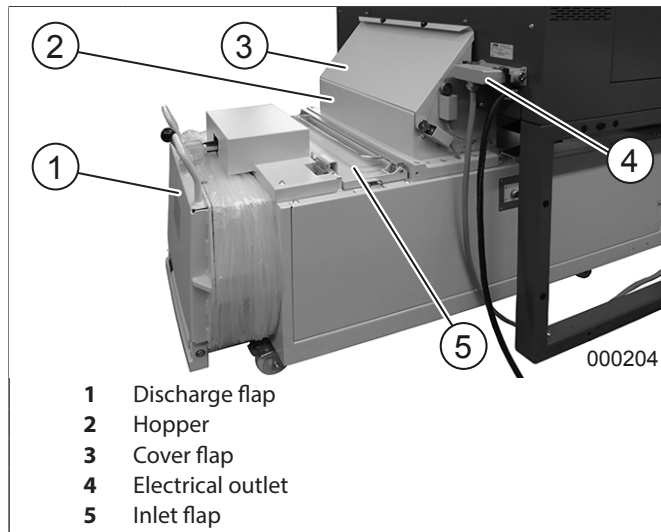
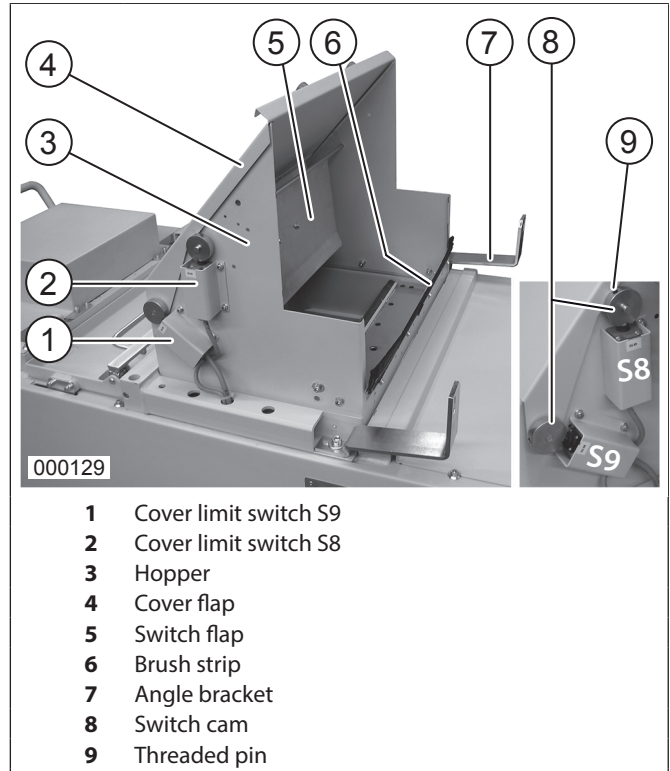

fig.1 Flaps and hopper
fig.2 Hopper
1. Release the transport lock (binder) on the outlet flap (fig. 1/1) and fold the flap down.
2. Take the hopper (fig. 1/2) out of the press compartment, as shown, place over the filler opening and fix to the press from inside with the aid of the 7 hexagon socket screws M6x12.
3. Swivel the brush strip (fig. 2/6) on the hopper up until the brush is pointing in the direction of the press compartment. Fix the brush strip to the hopper in this position with the two M6x16 hexagon socket screws and washers provided (use upper hole for fixing).
4. Remove both switch covers (fig. 2/1+2). Fix the limit switch S8 with 2 screws M4x40 and nuts M4 below the switch cam of the switch flap (fig. 2/8). Undo the threaded pin (fig. 2/9) (Allen key 2.5 mm), turn the cam into position and tighten the threaded pin again.
5. Fix the limit switch S9 with 2 screws M4x40 and nuts M4 under the switch cam of the cover flap (fig. 2/4). Undo the threaded pin (fig. 2/9) (Allen key 2.5mm), turn the cam into position and tighten the threaded pin again.
6. Position the two switch covers (fig. 2/1+2) over the limit switches and fix each to the hopper with two screws M5x16 and nuts M5.
7. Open cover flap (fig. 2/4). Check/correct position of security angle (fig. 3):
1. Push the baler under the shredder. Screw the shredder and the baler together with the aid of the two fixing brackets (fig. 2/7) provided with the shredder (fig. 1).
4. Insert and secure the connecting plug of the baler in the electrical outlet (fig. 1/4) at the housing rear panel.